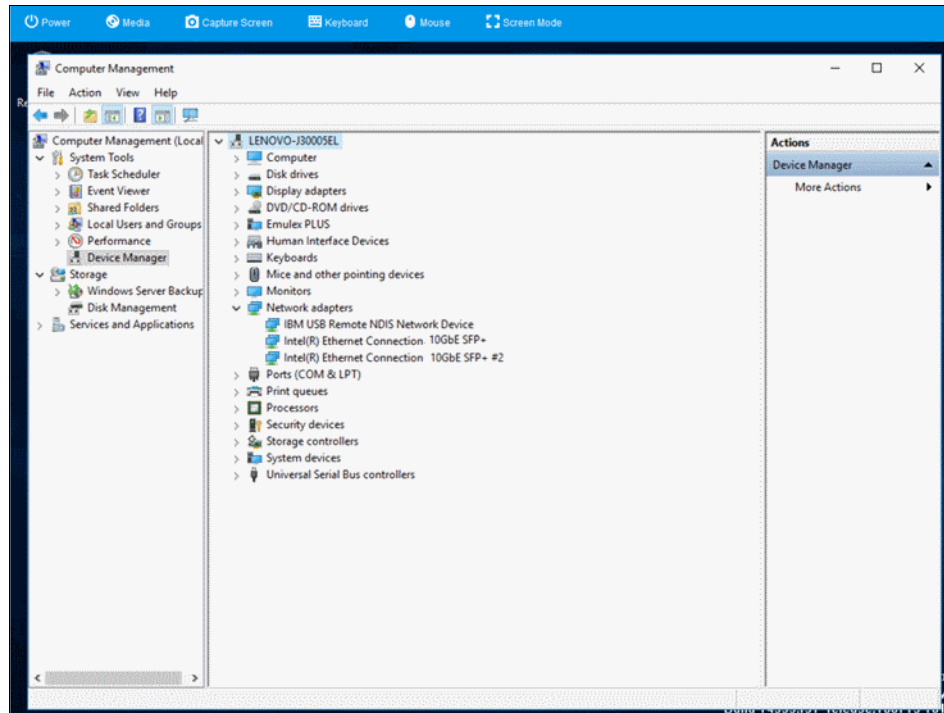

Figure 6-39 OS drivers in the windows install
14. After the Windows operating system installation completes, you will see that the appropriate OS drivers have been installed for the hardware as shown in Figure 6-39 on page 205.